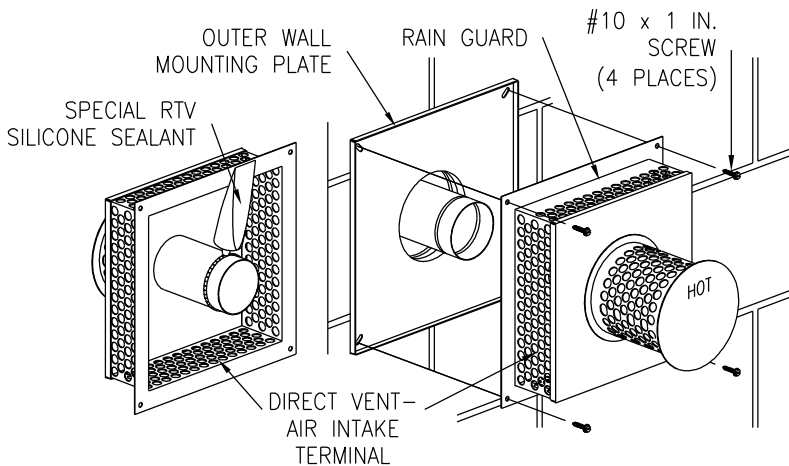

Figure 10
- Using the supplied special RTV silicone sealant, apply a bead one (1) inch (2.5 cm) from the end of the three (3) inch (7.6 cm) diameter tube that is part of the vent-air intake terminal. Slide the direct vent-air intake terminal into the three (3) inch (7.6 cm) diameter telescopic tube that extends through the wall and position it so it is flush with the outer wall mount plate. Make sure that the rain guard and the word "HOT" on the end of the direct vent-air intake terminal are oriented properly. Secure the direct vent-air intake terminal to the outer wall mount plate and wall with four (4) #10 x 1 inch screws (supplied) (See Figure 10). Note: Certain construction of walls may require the use of different type of anchoring means than supplied. **DO NOT** modify the direct vent-air intake terminal or outer wall mount plate.